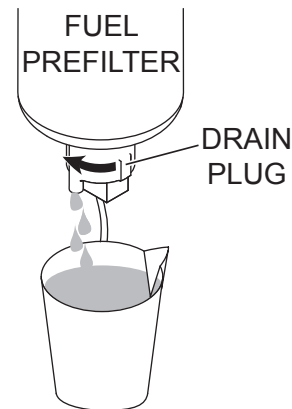

Figure 28. Fuel Water Separator Filter
1. Place a suitable container under the drain socket of the drain plug (Figure 28).